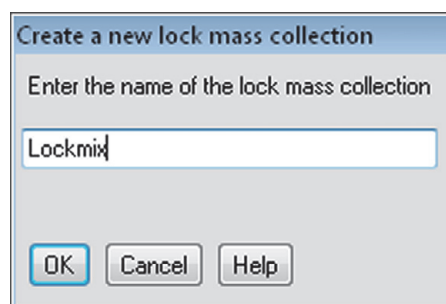

Figure 5-4. Creating a lock mass collection
2. In the New Lock Mass Collection dialog box, enter a name for the new lock mass collection. See Figure 5-4.